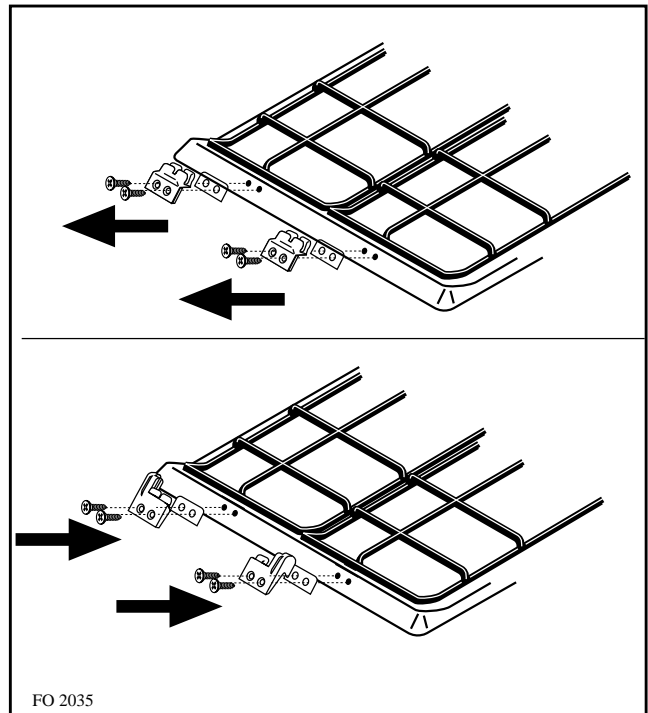

Fig. 10
- Remove the right and left hand grid blocks fitted to the back of the hob, by unscrewing the relevant screws (fig. 10)
- Fit the lid hinge blocks onto the hob, using the original screws, ensuring that the relevant shims are fitted between the hinge blocks and the hob (fig. 10);